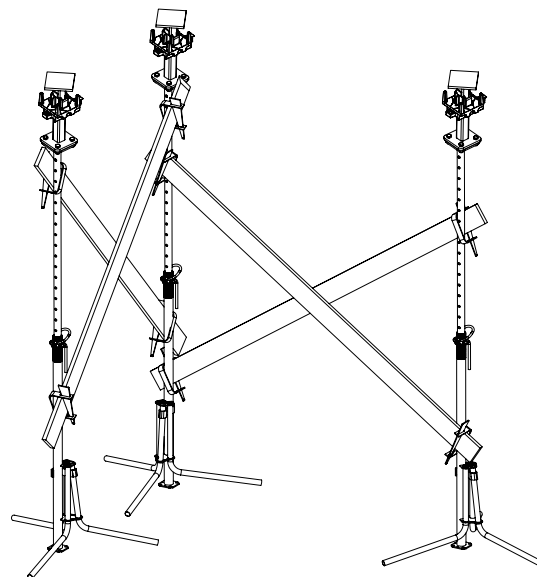

Fig. A2.07
- Brace ADB (7) can be used with prop of outer diameter above 57 mm.
- If props are below 57 mm diameter, then timber with brace clamps can be used for bracing. (Fig. A2.07)